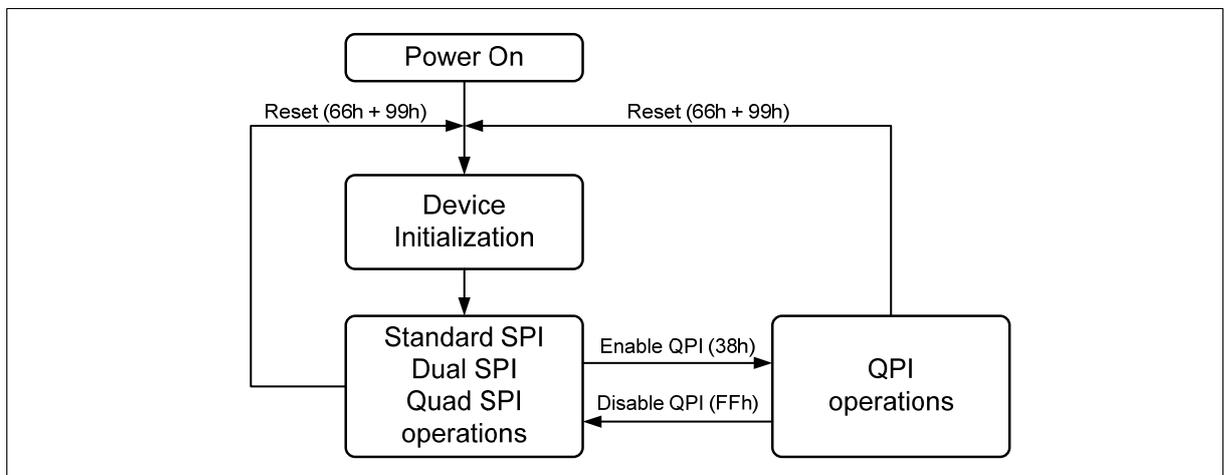

Figure 2 FM25Q16 Serial Flash Memory Operation Diagram
The FM25Q16 supports Quad Peripheral Interface (QPI) operations only when the device is switched from Standard/Dual/Quad SPI mode to QPI mode using the “Enable QPI (38h)” instruction. The typical SPI protocol requires that the byte-long instruction code being shifted into the device only via DI pin in eight serial clocks. The QPI mode utilizes all four DQ pins to input the instruction code, thus only two serial clocks are required. This can significantly reduce the SPI instruction overhead and improve system performance in an XIP environment. Standard/Dual/Quad SPI mode and QPI mode are exclusive. Only one mode can be active at any given time. “Enable QPI (38h)” and “Disable QPI (FFh)” instructions are used to switch between these two modes. Upon power-up or after a software reset using “Reset (99h)” instruction, the default state of the device is Standard/Dual/Quad SPI mode. To enable QPI mode, the non-volatile Quad Enable bit (QE) in Status Register-2 is required to be set. When using QPI instructions, the DI and DO pins become bidirectional DQ_0 and DQ_1 , and the WP# and HOLD# pins become DQ_2 and DQ_3 respectively. See Figure 2 for the device operation modes.